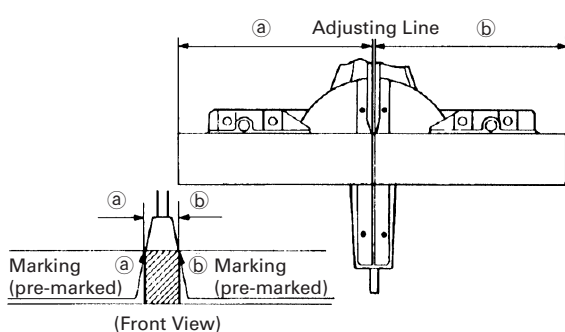

Fig. 27
- (1) As shown in Fig. 27 the width of the saw blade is the width of the cut. Therefore, slide the workpiece to the right (viewed from the operator's position) when length ② is desired, or to the left when length ① is desired.